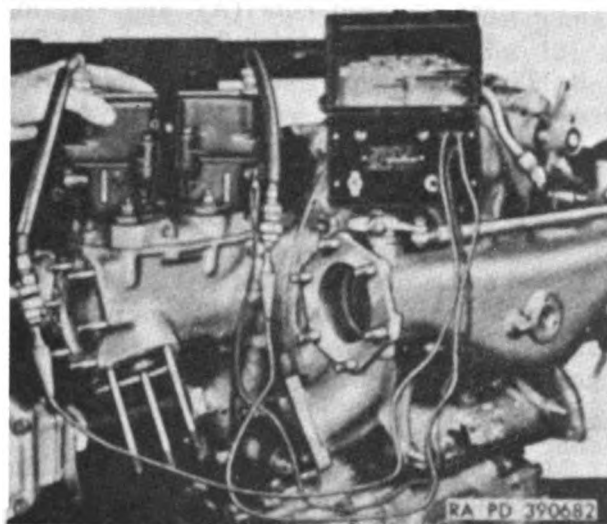

Figure 182. Synchronizing magnetos.
- (7) Insert a $\frac{1}{8}$ x 1 cotter pin in end of each ground cable and clip two positive (red) leads of magneto timing light to cotter pins as shown in figure 182.